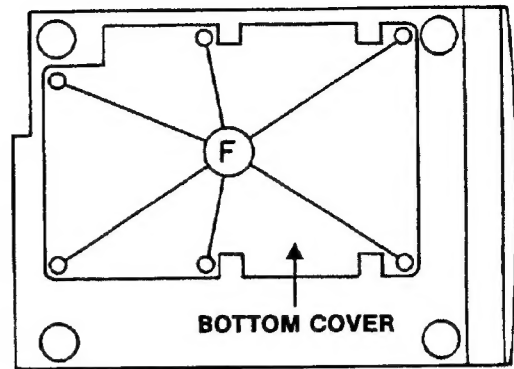

Fig. 5
- (1) Place the set on its side as shown in Fig. 5. At this time, in order not to cause scratches on the top cover, place a cloth under the set.
- (2) Remove the 6 screws ⑥ and remove the bottom cover.